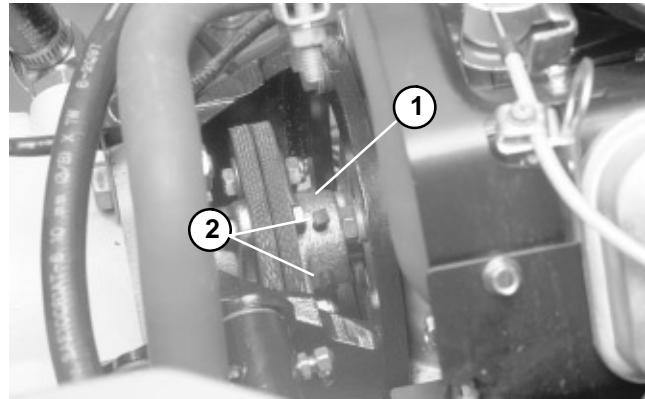
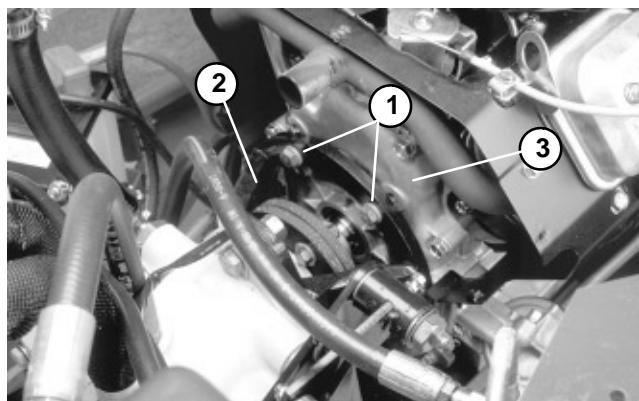

Figure 40
Figure 41
10. Loosen both set screws on the engine hub to remove hub from the pump shaft (Fig. 40).
11. Remove four cap screws and lock washers securing the pump mount to the engine block. Pull pump and mount from the engine and secure to frame. Remove square key from engine shaft (Fig. 41).
12. Remove hex nut (5), lock washer (11), and cap screw (13) securing the black (-) battery cable (26) and wire harness (43) ground wire to the engine block. Pull cable and harness clear of the engine (16).
13. Remove three hex nuts (5), flat washers (3), and cap screws (13) securing the engine (16) to its base (15).
- C. Insert cap screw (13) through engine base and engine block. Install lock washer (11) onto cap screw with battery cable (26) and wire harness (43). Screw hex nut (5) onto the cap screw.
- D. Insert cap screws (13) through engine base and engine block. Install flat washers (3) and screw hex nuts (5) onto the cap screws. Do not tighten fasteners at this time.
3. Position pump and pump mount to the engine. Make sure engine hub slides onto the engine shaft and square key (Fig. 40). Secure pump mount to the engine block with four cap screws and lock washers (Fig. 41).
4. Tighten both set screws securing the engine hub to the engine shaft (Fig. 40).